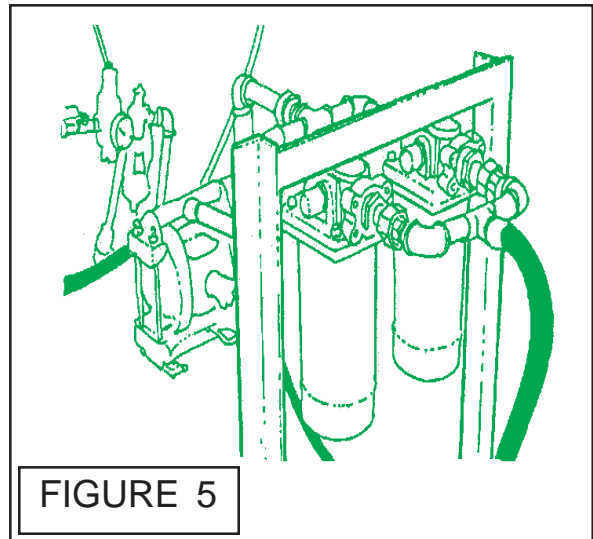

FIGURE 5
3. Avoid Hydraulic Contamination by filtering the Hyd Oil while filling the Hydraulic Tank. Filter buggies or carts are commercially available for Hydraulic system clean-up and Oil transfer. These consist of high capacity filter, a Circulating Pump, a Drive Motor and hoses for connecting to the units hydraulic system. When adding Oil always use Clean new Oil from a sealed container, If you suspect the Oil of being contaminated don't use it. (figure 5 & 6). It is best to always use a filter system when adding even new oil.